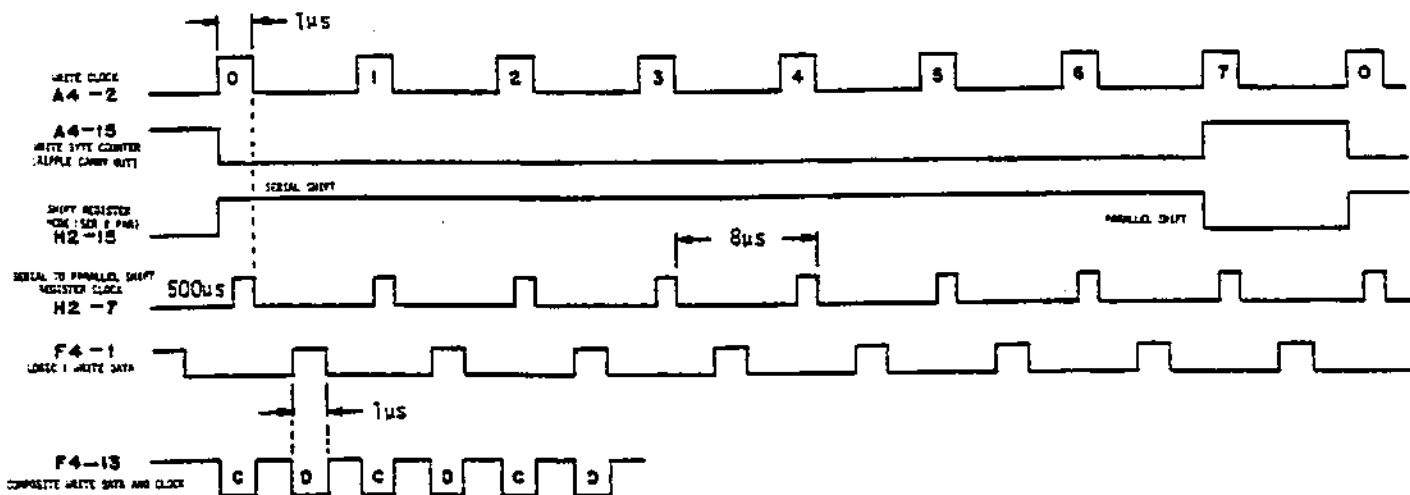

Figure 4-11. Write Circuit Timing
The Write Clock + Data Window Generator, A3, is enabled by the 1MHz Clock pulse (zone D8) at A3 pin 2. The 1MHz clock is derived by dividing the 2MHz Clock by 2 at J4 pin 9 (zone A4). In addition to clocking A3 pin 2, the 1MHz Clock is also present at F3 pin 3 (zone D6). On the eighth 1MHz Clock pulse, occurring every 8 μ s., A3 pin 15 (RC) is HIGH for 1 μ s and, after being inverted LOW by B4 pin 6 (zone D4), is present at F3 pin 2. When the 1MHz Clock pulse goes LOW at F3 pin 3, F3 pin 1 is enabled HIGH, clocking H2 pin 7. When H2 pin 15 (SHIFT/ \overline{LD}) is HIGH, WRITE DATA is shifted serially out on H2 pin 12 (SERIAL DATA OUT). If a logic 1 is being written, the HIGH at H2 pin 13 is inverted by B4 pin 10 (zone D4) and Serial Write Data appears LOW to F4 pin 3 (zone D3). When A_{OUT} and B_{OUT} are HIGH, and C_{OUT} is inverted HIGH by G2 pin 6 (zone D4), E4 pin 6 (zone D3) is enabled LOW. F4 pin 1 (zone D3) is enabled HIGH, insuring F4 pin 13 is LOW (refer to Figure 4-11 and 4-12), and the Disk WRT DATA (Write Data) input is enabled through line driver K3 pin 9 (zone D2). The Write Data Windows (zone D3) are developed halfway between the write clocks which are generated every 8 μ s.